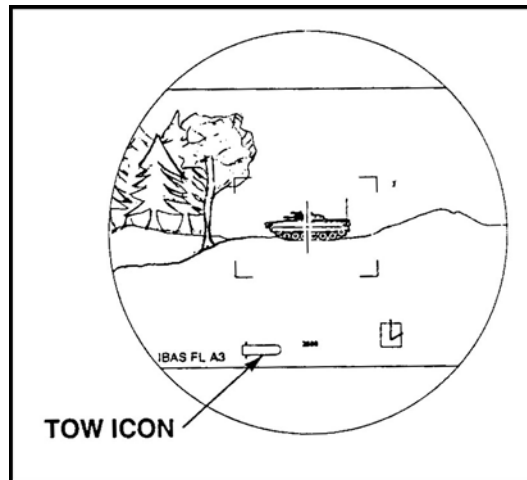

Figure 15. IBAS reticle.
- a. Align the reticle on the target (Figure 15).